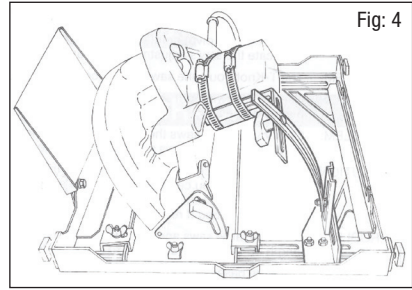
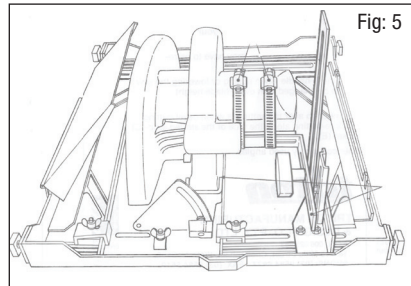

Fig: 4
Fig: 5
- Before fully tightening all the fastenings, check that the saw can be adjusted through its full range in both depth of cut and angle of cut. Note that the Slotted Strap (C) is designed to flex in a curve when the saw is angled for bevel cutting, see Fig 4.
- If the saw can be adjusted smoothly through its full range, loosen the T-Knob and fully tighten the Band Clamps (D). Do not overtighten the band clamps as you could damage the motor casing.
- Also, ensure that the arm of the Saw Motor Bracket (E) which extends forward is parallel to the edge of the saw's base plate, see Fig 5. If it is not parallel, either remove the bracket and slightly bend the bracket in a vice, or use shim packing on one side between the rubber cushion strip and the bracket.
- Re-tighten the T-Knob (G), ensuring that the Slotted Strap (C) remains in the vertical position, and that the extended arm of the Saw Motor Bracket (E) does not flex or distort as you tighten the knob.
- Finally, tighten the nuts fastening the Base Bracket (A) to the slide chassis.